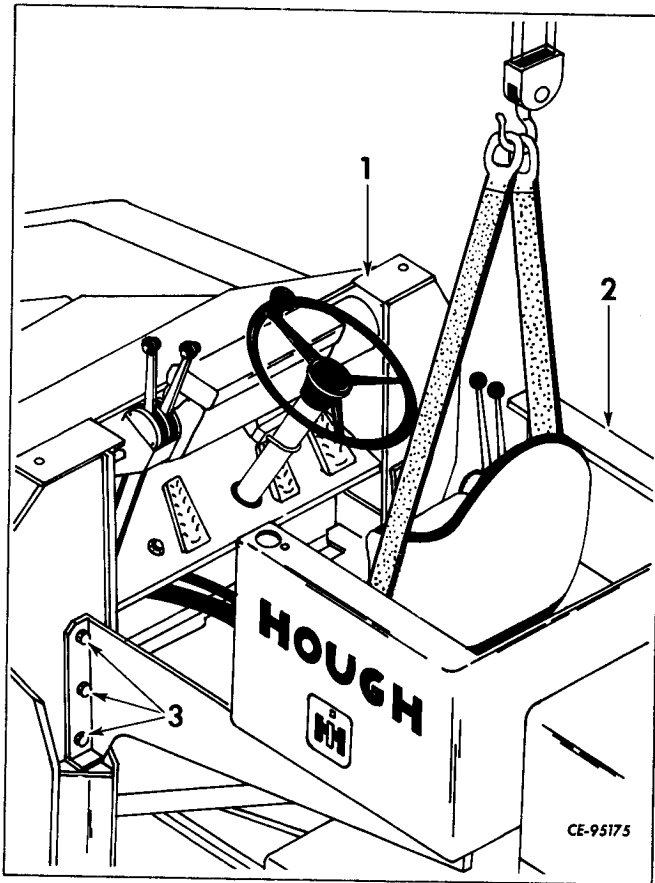

Figure 4-86
Using a sling and hoist, install operator's compartment (2, Fig. 4-86). Secure with cap screws (3) and nuts to front frame (1).